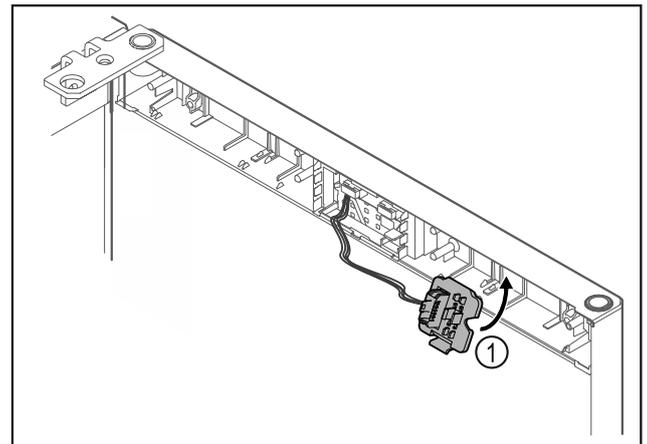

Fig. 12
- ▶ Engage the plug holder Fig. 12 (1) on the opposite side.*